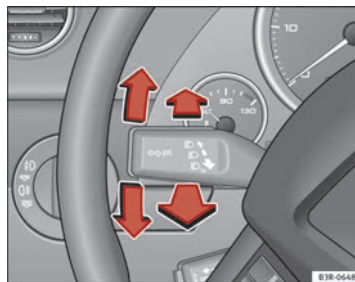

Fig. 92 Turn signal and main beam headlight lever
- Move the lever all the way up to indicate right or all the way down to indicate left \Rightarrow Fig. 92.